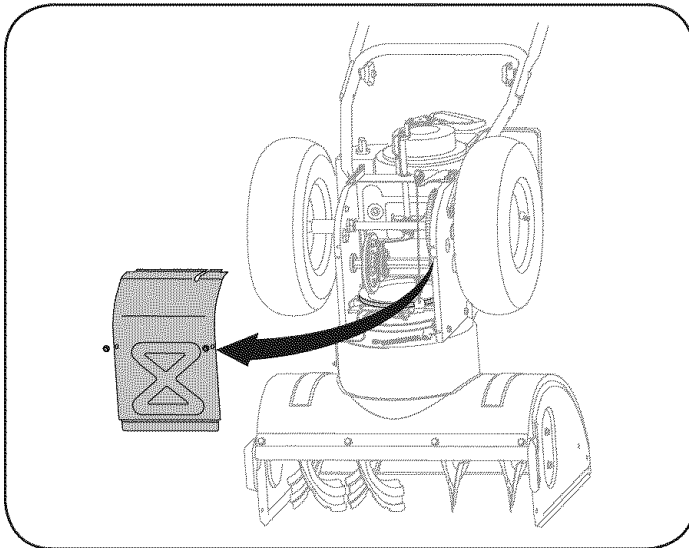

Figure 23
- Remove the frame cover from the underside of the snow thrower by removing four self-tapping screws which secure it. See Figure 23.
5. Remove the frame cover from the underside of the snow thrower by removing four self-tapping screws which secure it. Refer to Figure 23.